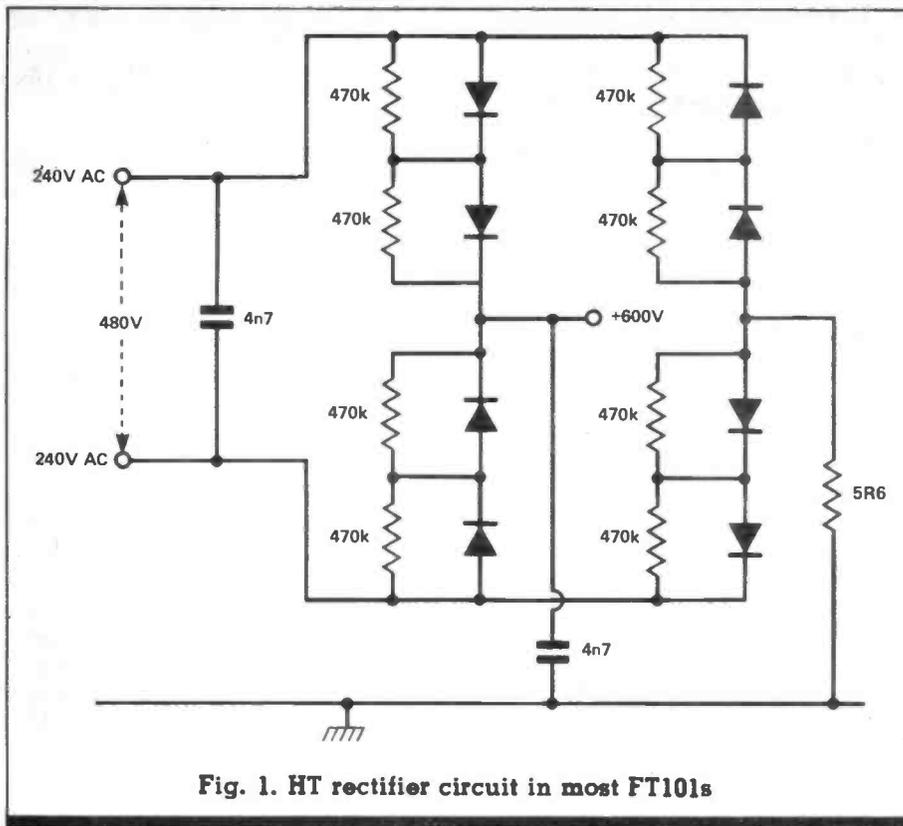

Fig. 1. HT rectifier circuit in most FT101s
**1973 Late FT101 Mark 2 (present value £260-£310).** This unit is the same as the earlier *FT101 Mark 2* but is fitted with an extra receive audio pre-amplifier. This small printed circuit board, the circuitry of which is given in Fig 1, is mounted behind the mode switch.
one: there is a fault. The most likely cause of mains fuse failure is a short circuit in the HT rectifiers, and these should be checked with an ohm meter. A suitable replacement is the BY127 television type HT rectifier, and it is advisable to replace all eight rectifiers in the HT bridge even if only a couple are faulty. Note that early FT101 Mk 1s used only four HT rectifiers, but for reliability these should be replaced with eight rectifiers fitted with the 470k equalising resistors as in Fig. 1.